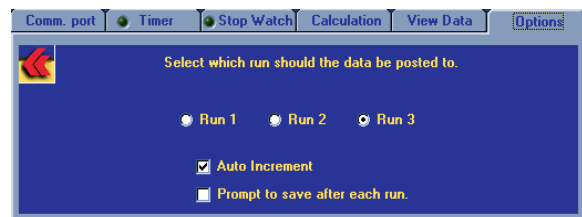

Figure 8: Options Tab
8. **Options Tab.** The options tab is shown in Figure 8. Under normal operation, the first set of test results will be displayed in the "Run 1" tab on the main screen. Subsequent test results will cycle to the next tab, "Run 2". After "Run 3" the software will cycle back to the first tab, increment the run number to "Run 4" and will continue in this loop until the software program is reset. In the options tab, you may disable this automatic feature by un-checking the "Auto Increment" box. You can then manually select in which "Run Tab" to post the test results. Also in the options tab, you may disable the feature for automatic prompting to save the test data after each run. (Note: If the test data is not saved, the data will be lost and overwritten when the next test is performed).